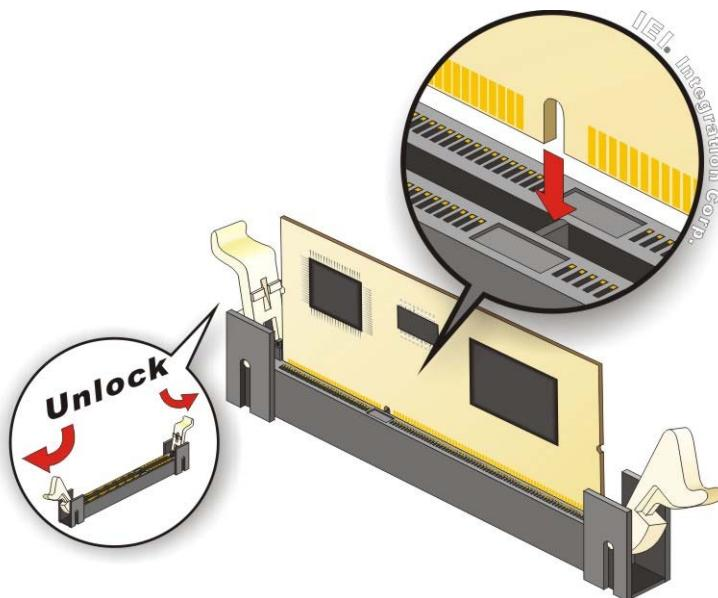

Figure 4-8: iRIS-2400 Module Installation
To install the iRIS-2400 module, please follow the steps below and refer to **Figure 4-8**.
Step 2: Open the socket handles. Open the two handles outwards as far as they can. See **Figure 4-8**.
Step 3: Align the iRIS-2400 module with the socket. Align the iRIS-2400 module so the notch on the module lines up with the notch on the socket. See **Figure 4-8**.
Step 4: Insert the iRIS-2400 module. Once aligned, press down until the iRIS-2400 module is properly seated. Clip the two handles into place. See **Figure 4-8**.